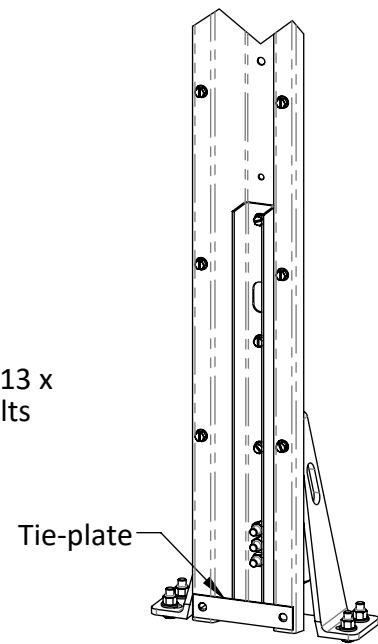

Figure 4
4. Locate tie-plate in bottom leg holes, using [2] $\frac{1}{2}$ "-13 x $1\frac{1}{4}$ " long bolts as shown, as shown in Figure 4.